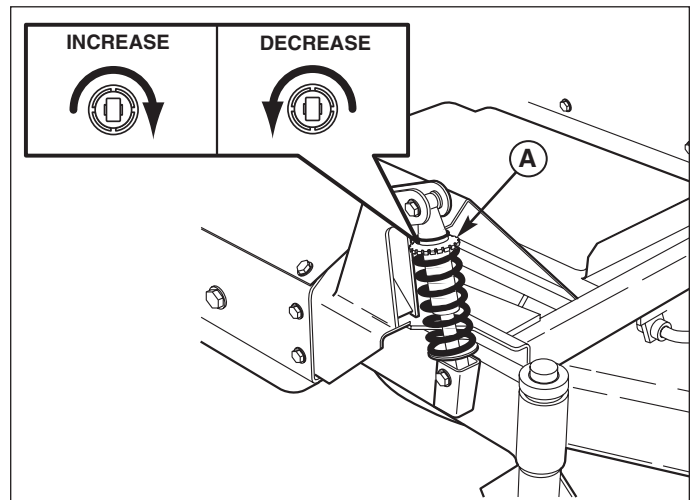

Figure 24. Front Suspension Adjustment
2. See Figure 24. Turn the pre-load adjustment collar (A) CLOCKWISE to increase the pre-load, turn COUNTER-CLOCKWISE to decrease the pre-load. Make sure both shocks are set to the same amount of pre-load.